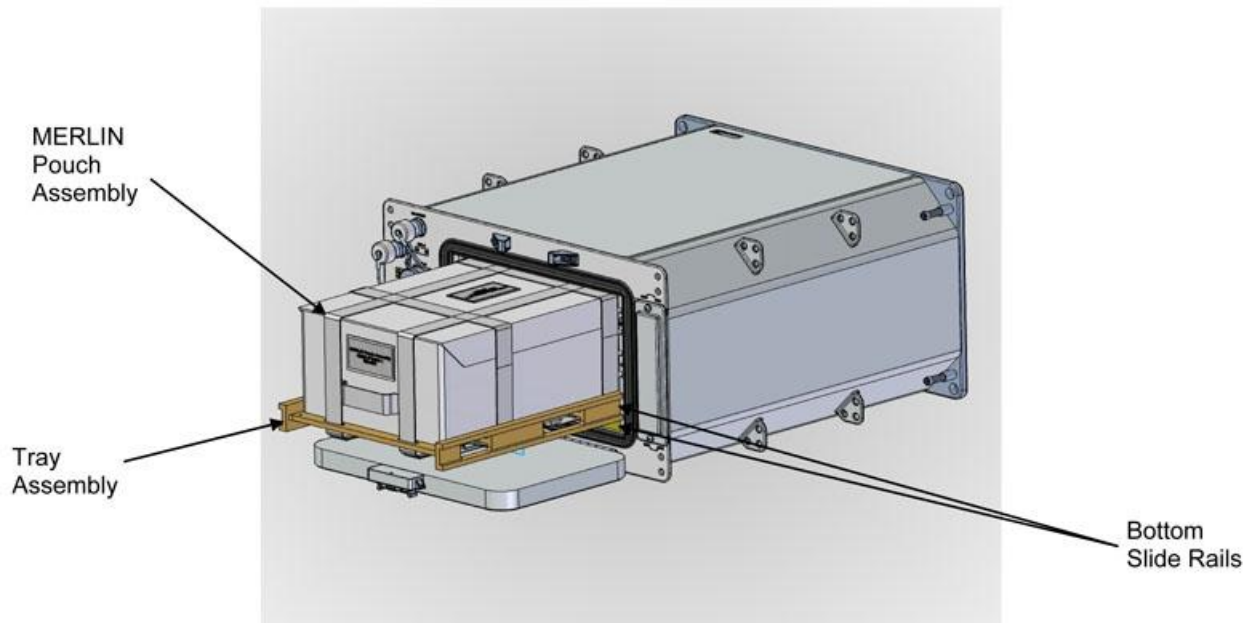

Figure 6. MERLIN Pouch Assembly Pulled Partially out of MERLIN
- 3.3 Slide Pouch/Tray Assembly into MERLIN using bottom slider rails of internal volume. Refer to Figure 6.